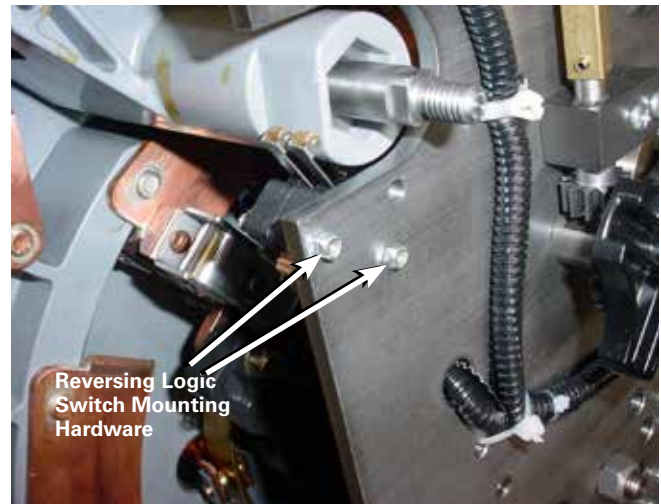

Figure 58. Logic switch removal.
5. Using a small screwdriver (or 5/32" Allen wrench) and a 1/4" wrench, loosen and remove the self-locking nuts and reversing logic switch mounting screws. See Figures 58 and 59.